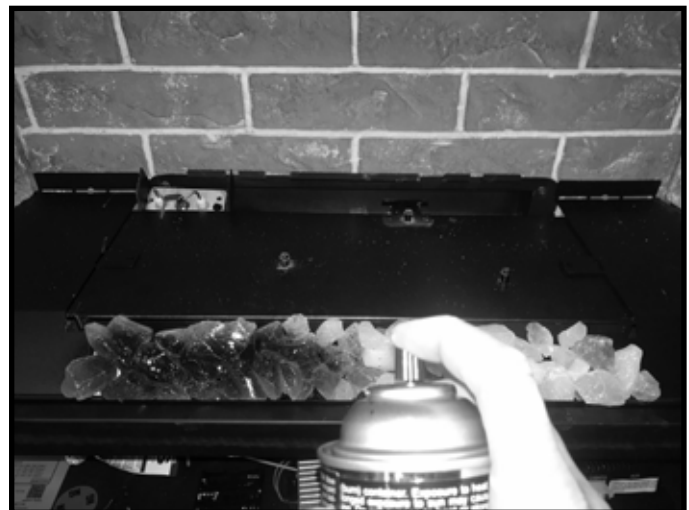

Figure 11.2 Paint Teco-Sil
4. Fog the Teco-Sil to the desired look, using high temperature black paint (Hearth & Home Technologies part number TUP-GBK-12). See below for fogging tips. Prior to painting, take precautions to prevent any overspray from reaching the pilot assembly. Paint is not included with the appliance. See Fig 11.2.